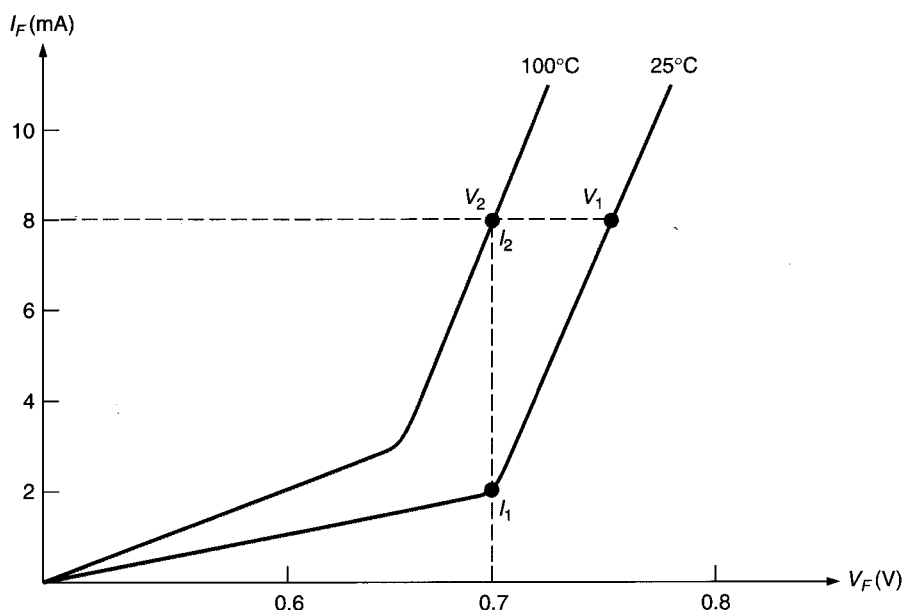

FIGURE 2.23 Temperature effects on forward operation.
The effects of increased temperature on forward diode operation are illustrated in Figure 2.23. As you can see, there are two forward operation curves. One represents the diode operation at 25°C, and the other represents the diode operation at 100°C. From the graph, we can draw two conclusions regarding forward diode operation and temperature:
1. As temperature increases,  $I_F$  increases at a specified value of  $V_F$ . This is illustrated in Figure 2.23 by the two points labeled  $I_1$  and  $I_2$ . As you can see, both of these points fall on the  $V_F = 0.7$  V line. However,  $I_2$  is greater than  $I_1$  due to the increased thermal activity in the diode. As temperature has increased from 25°C to 100°C, the value of  $I_F$  has increased from 5 mA ( $I_1$ ) to 25 mA ( $I_2$ ).